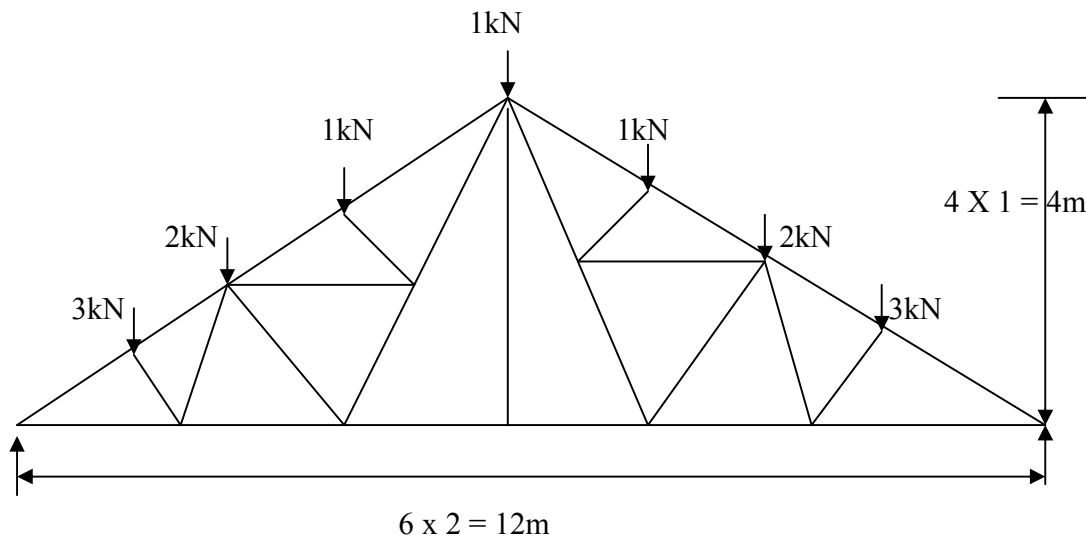

Figure.5
- (b) Analyze the compound truss as shown in the figure.5 and tabulate the forces in the members. **07**